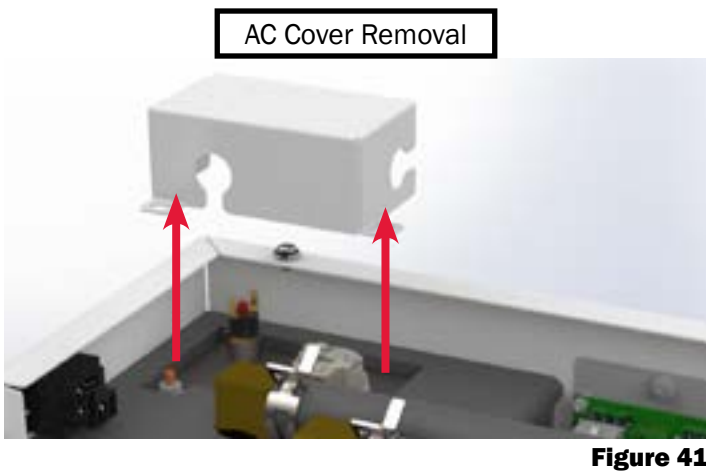

Figure 41
- 1. Disconnect all sources of AC and DC power from the Aqua-Hot (if the AC high-limit thermostat is the issue, the AC access cover will need to be removed - see Figure 41).